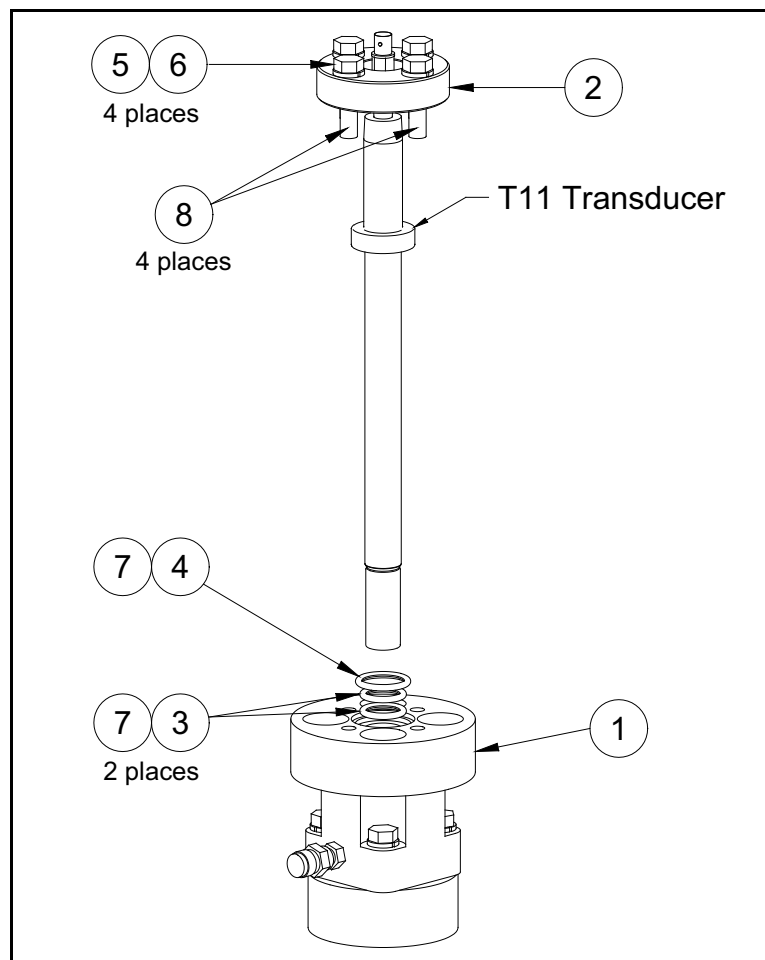

Figure 75: T11 Installation Components for a Depressurized Pipe
See *Table 10* below and *Figure 75* below for the components required to install the new transducer.
*Component numbers correspond to item numbers in *Figure 75* below.